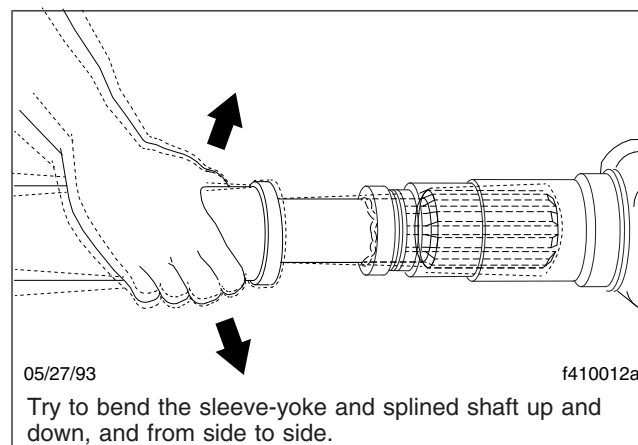

Fig. 1, Check for Slip-Joint Spline Wear
- 6.3 Try to bend the sleeve-yoke and splined shaft up and down, and from side to side. See Fig. 1. If looseness is greater than 0.007 in (0.18 mm), replace the sleeve-yoke and splined shaft.